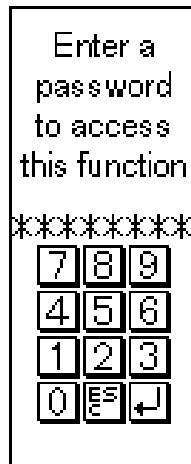

Figure 2
5. Press "START/RESET" (see Figure #1: Main Screen) to allow the 2 hour timer to begin. This will prompt to the password screen. (see Figure 2 Password Entry)